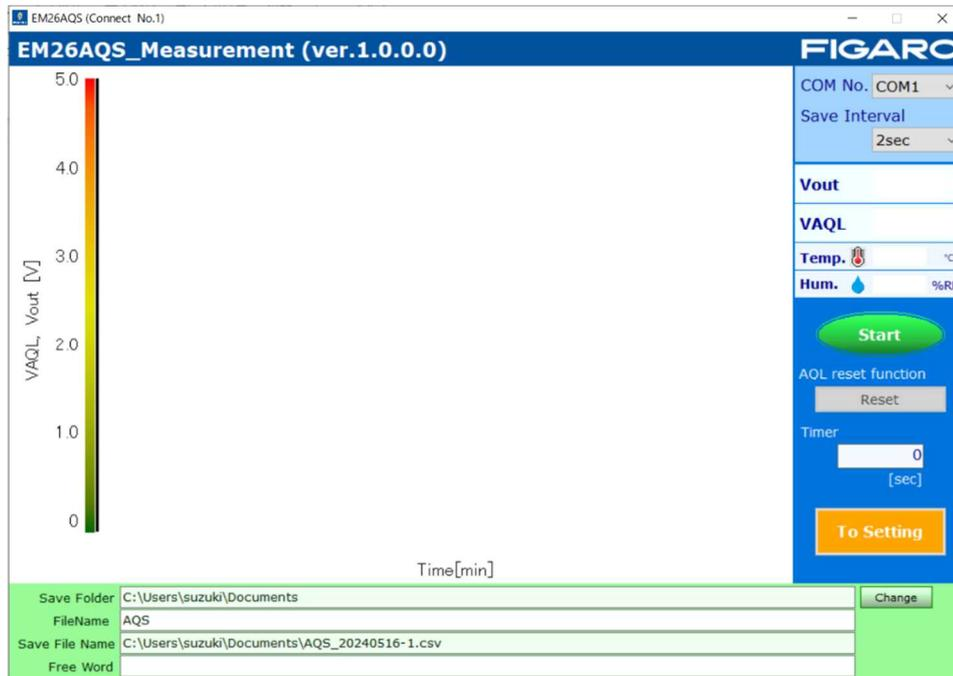

Figure 3: Startup screen
③ Set SW1 (Power Input Switch) on EM26AQS to the CN3_ON position.
④ Double-click the icon of the dedicated application "EM26AQSMeasure.exe" installed on your PC to display the startup screen as shown in Figure 3.